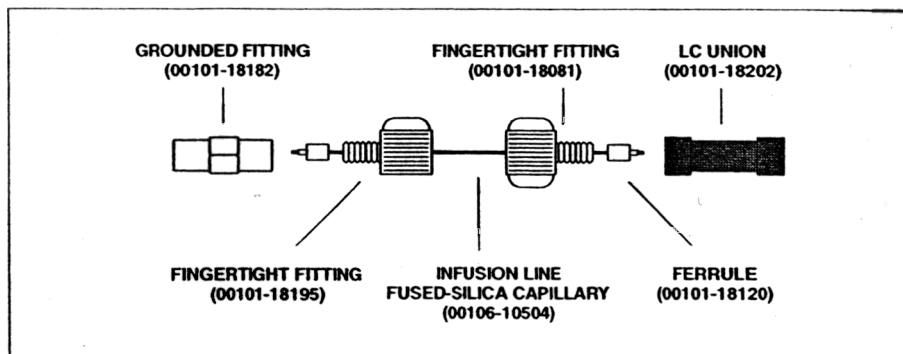

Figure 2-7. ESI/MS plumbing connections for the fused-silica infusion line
6. Connect a fused-silica infusion line from the LC union to the (stainless steel) grounded fitting, as follows. See Figure 2-7.